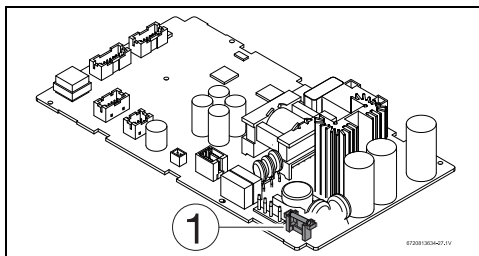

Fig. 35 Fuse position
- ▶ Check the fuse on the printed circuit board, for electrical continuity, see fig. 35, [1].